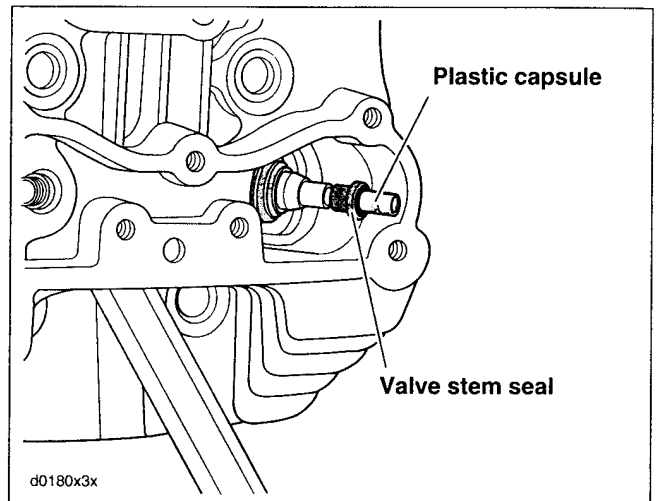

Figure 3-104. Install Valve Stem Seal
12. See Figure 3-104. Apply a very thin film of clean H-D 20W50 engine oil to capsule. Slide **new** valve stem seal over capsule and down valve stem until contact is made with top of valve guide. Remove capsule from valve stem tip.